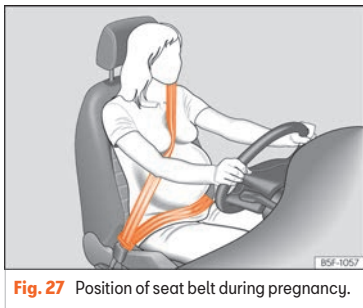

Fig. 27 Position of seat belt during pregnancy.
In the case of **pregnant women**, the seat belt should pass uniformly over the chest and as low as possible through the pelvic area with the strap flat so it does not press down on the abdomen; in addition, it must be used throughout the entire pregnancy >>> Fig. 27.
- In the case of pregnant women, the abdominal strap of the seat belt should pass as low as possible across the pelvic area, resting flat and "surrounding" the abdomen >>> Fig. 27.